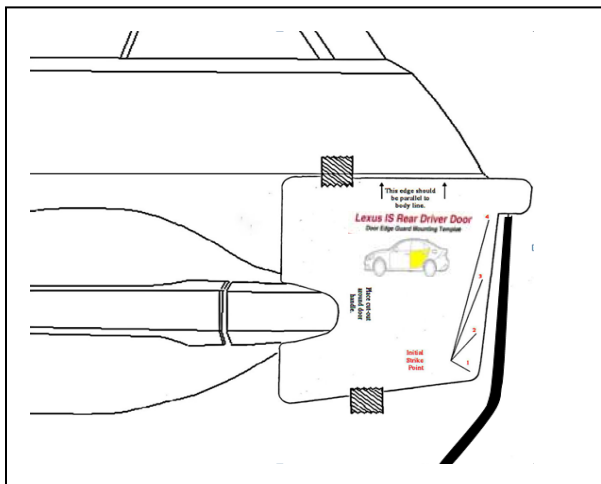

Fig. 1-4
**⚠ NOTE:** Top of DEG can be identified by matching the profile of DEG to the door profile. (Fig 1-4)